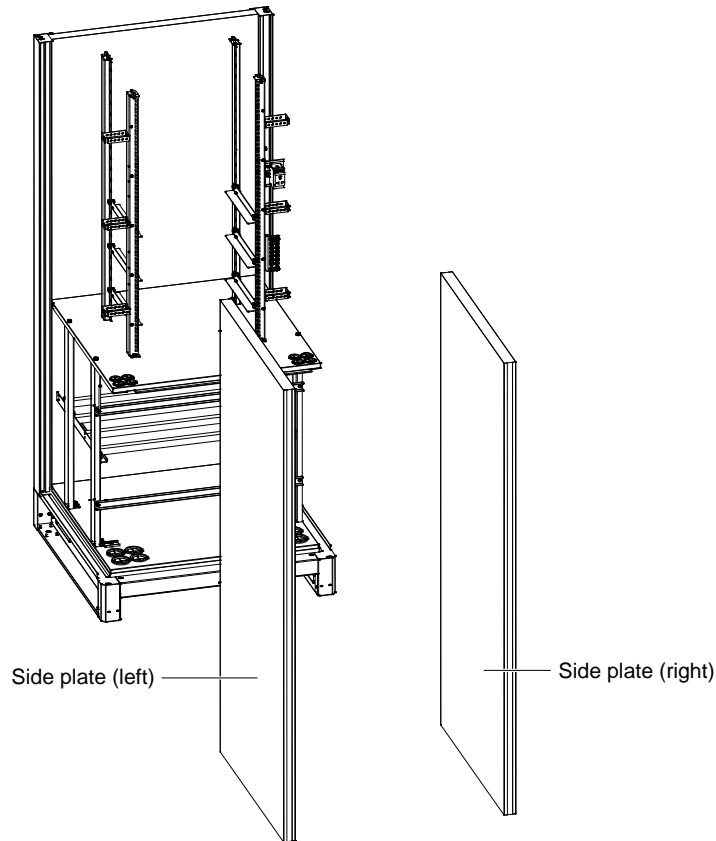

Figure 2-11 Disassembling side plates
7. Disassemble the left and right side plates and remove them toward front, as shown in Figure 2-11.